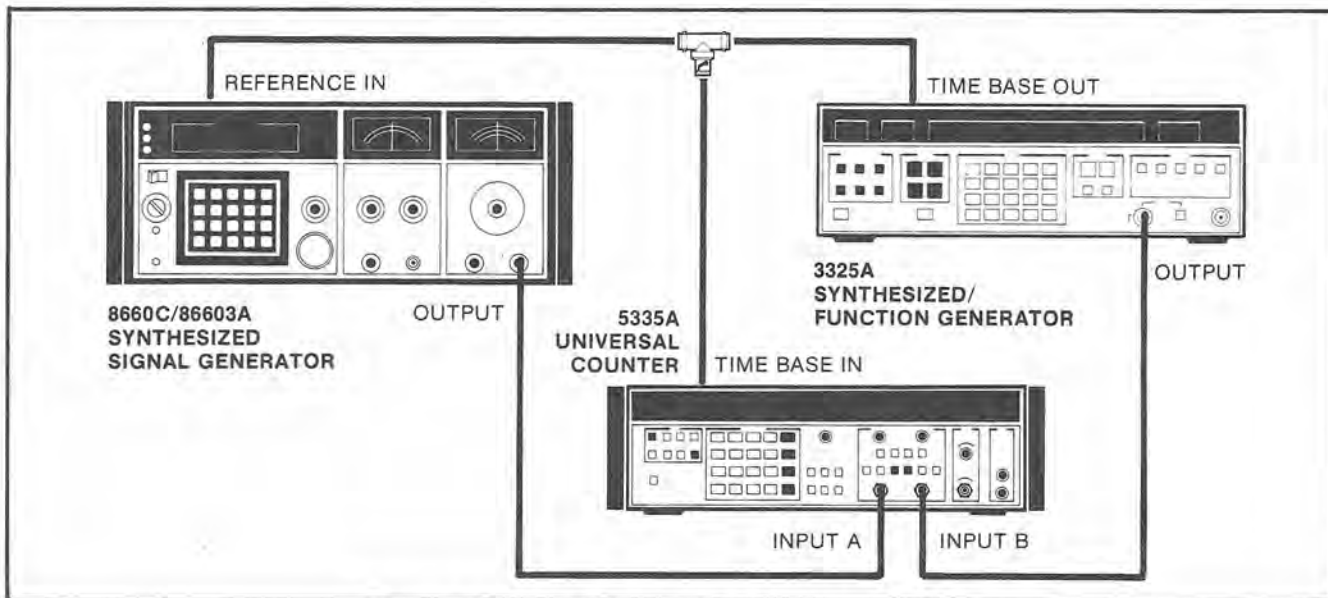

Figure 4-12. Ratio A/B Test Setup (20 MHz to 200 MHz)
e. Connect the HP 3325A Synthesizer/Function Generator and the HP 8660C Synthesized Signal Generator to the 5335A as shown in *Figure 4-12* (the 8660C, 3325A, and the 5335A time bases shall be locked together).